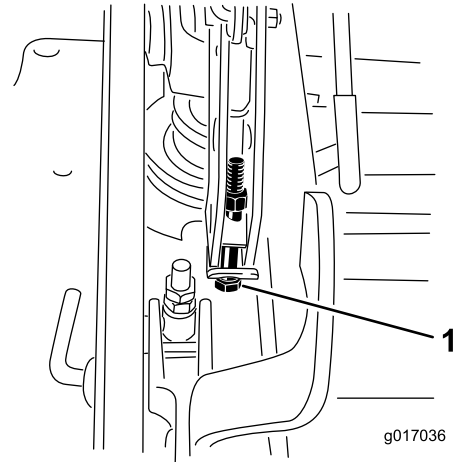

Figure 96
12. If the deck is too low, tighten the single-point-adjustment bolt by rotating it clockwise. If the deck is too high, loosen the single-point-adjustment bolt by rotating it counterclockwise (Figure 96).